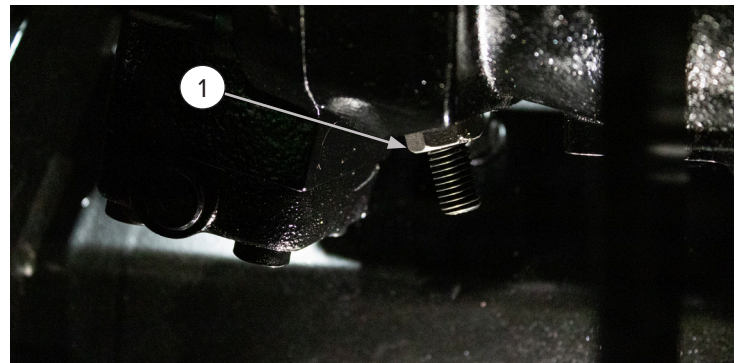

Figure 5
3. Loosen the jam nut, and turn the allen bolt to adjust the minimum displacement. Tighten the jam nut when complete. See Item 1, Figure 5.